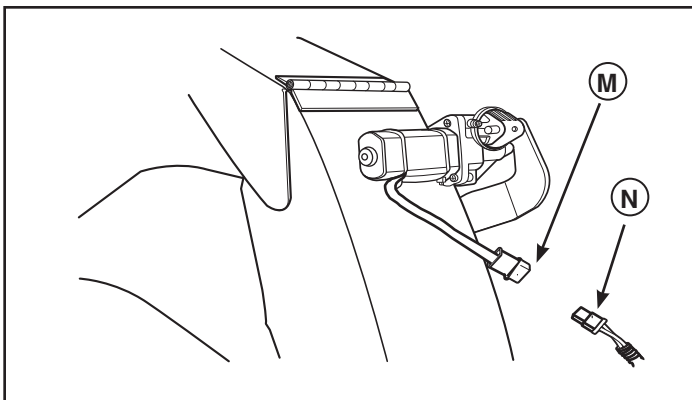

Figure 4
4. Connect the electric motor connector (**M**, Figure 4) to the harness connector (**N**).